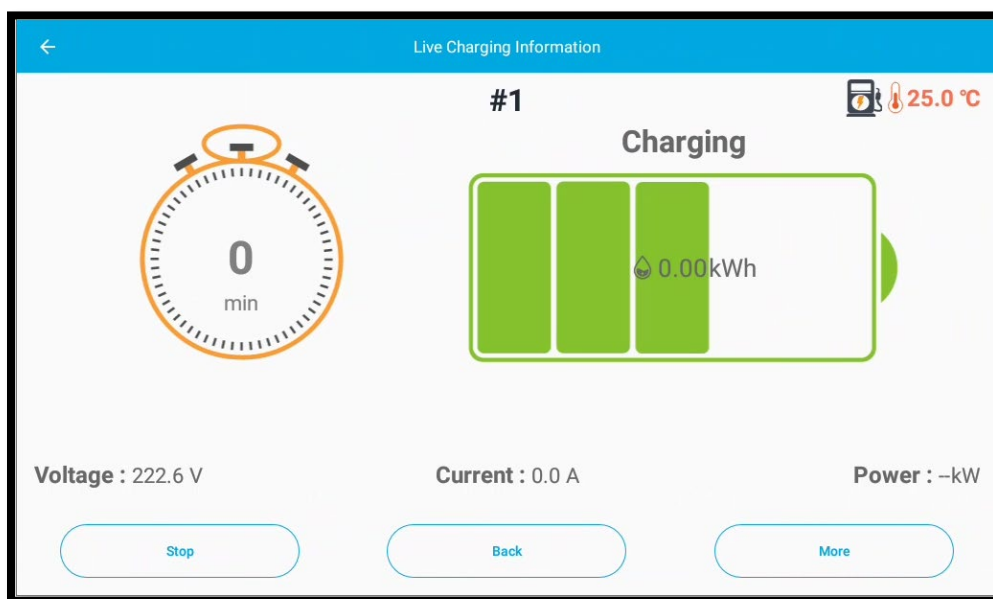

Figure 4.4 Charging in Progress Screen
- 4) After the charging process effectively begins, the UI system will display **charging in progress** screen as seen in **Figure 4.4**.